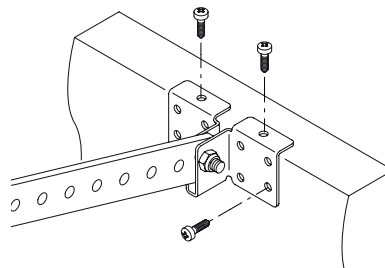

Fig.28
12) For excellent fixing it is recommended to use all of the holes present on the bracket (10 screws) including the upper ones highlighted Fig.28.